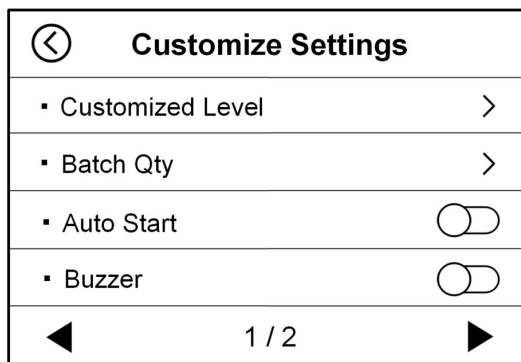
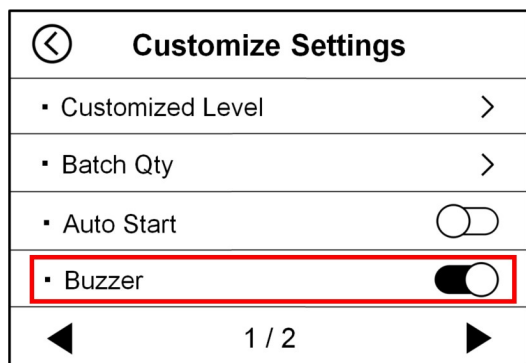
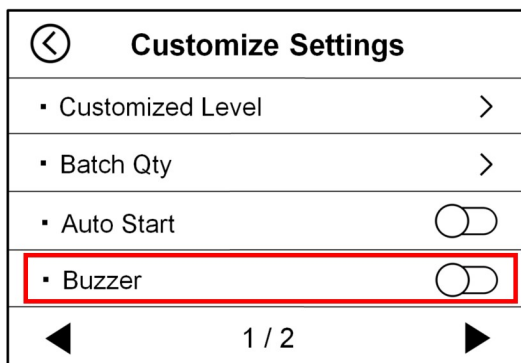

Figure 39
Figure 54
Figure 55
2) Under the interface in Figure 39, touch the switch button behind the option "Buzzer" to turn the buzzer on and off. Figure 54 below shows the buzzer on, the switch color behind "Buzzer" changes to blue. Figure 55 below shows the buzzer off, the switch color behind "Buzzer" turns gray.